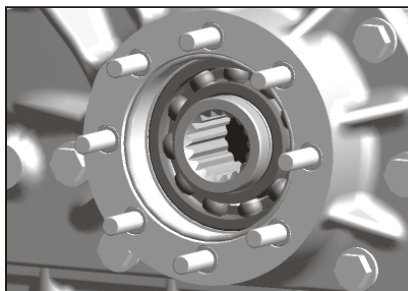

Fig. 8
- b. Install Studs as shown in **Fig. 8**